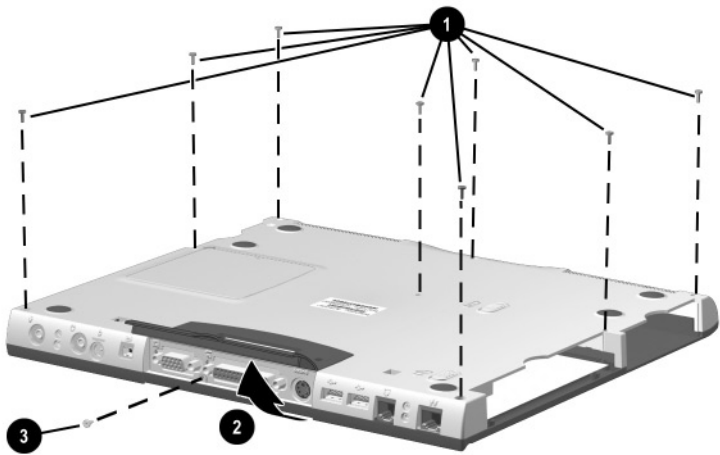

Figure 5-18. Removing the Top Cover Screws
3. Remove the eight black M2 × 9 screws ❶ that secure the top cover to the base enclosure (Figure 5-18).
4. Open the parallel and serial connector cover ❷.
5. Remove the silver M2 × 6.5 screw ❸ that secures the top cover to the base enclosure through the rear panel.